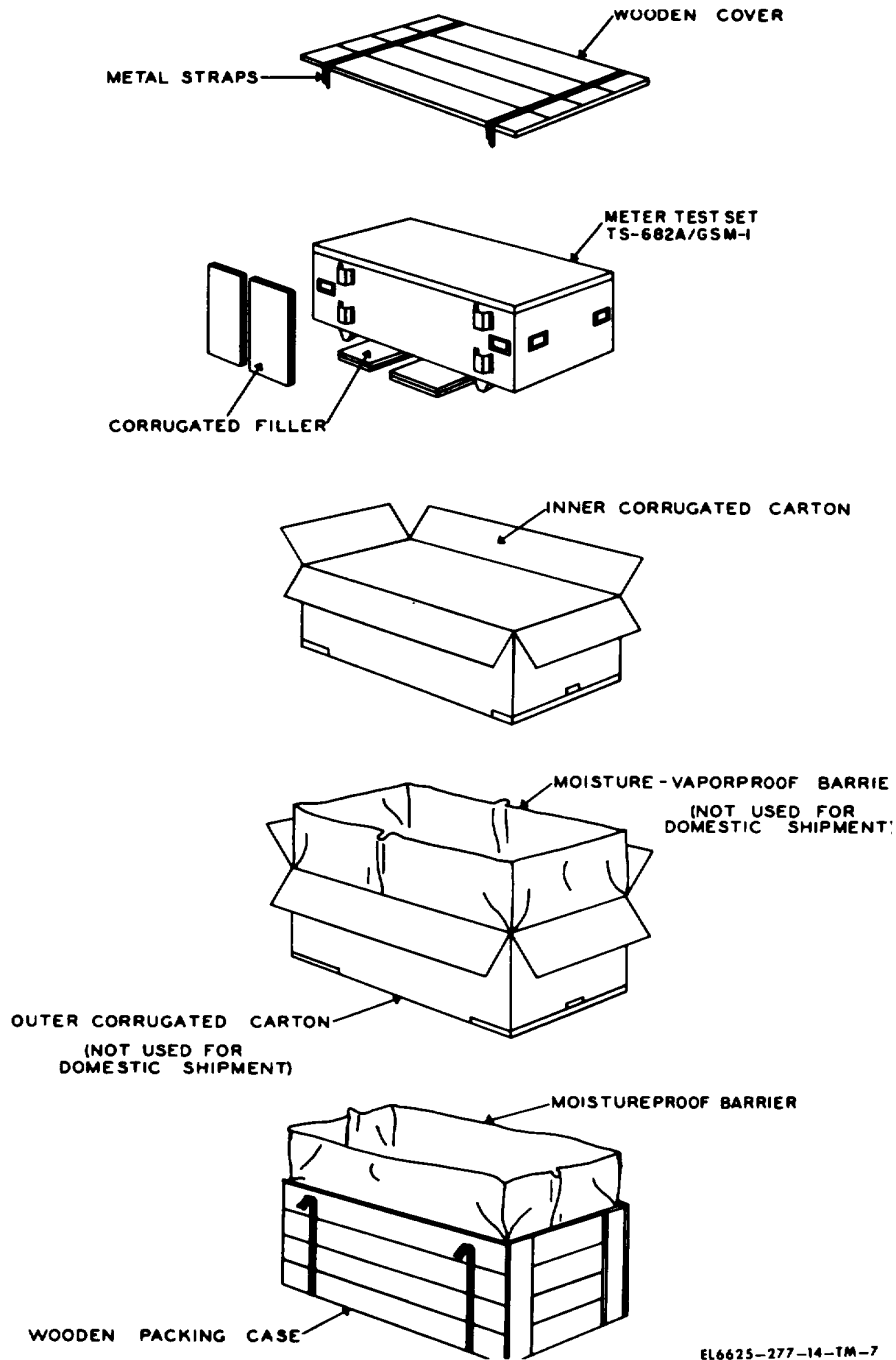

Figure 2-1. Packaging details for Meter Test Set TS-682(*)/GSM-1
a. Meter Test Set TS-682(*)/GSM-1 may arrive packed for either domestic or overseas shipment. Packaging details are shown in exploded diagram form in figure 2-1.